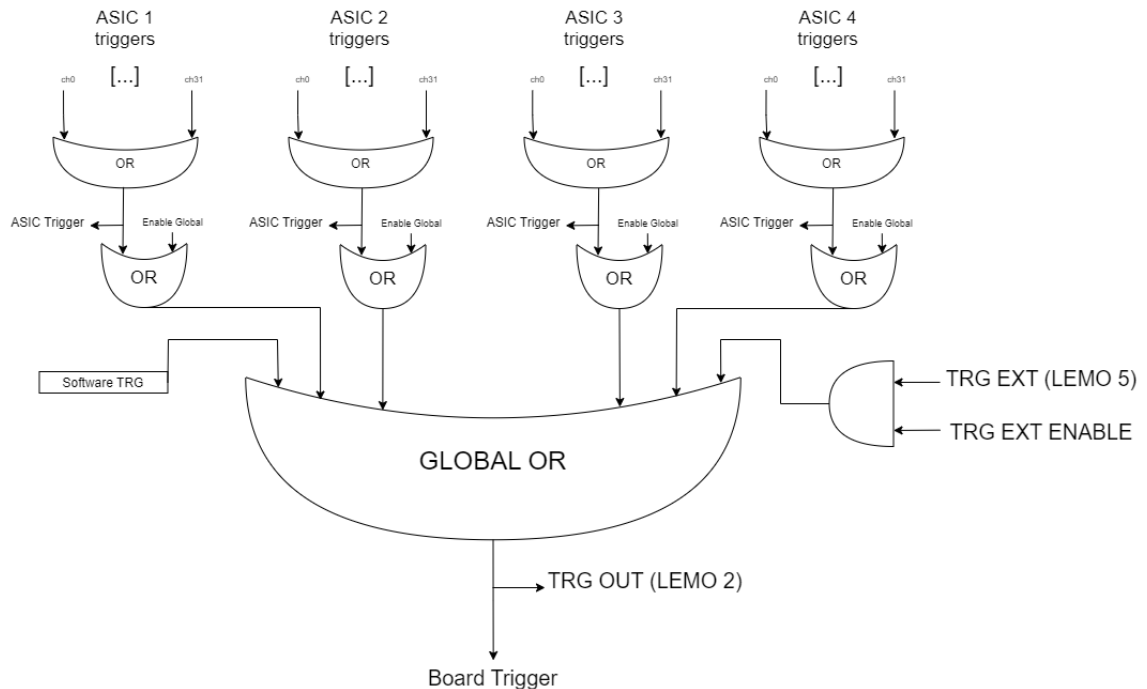

Figure 11.10: scheme of the triggering logic set in the default firmware loaded on DT5550W for A55PETx management.
The default trigger logic is implemented in the FPGA firmware of the DT5550W, as shown in **Figure 11.10**. It is possible to set each ASIC to trigger independently using the time triggers, or use a global board trigger that is the OR of all the possible triggers (internal, software, external, etc.).
- Configuration of the triggering logic as per the scheme in Figure 11.10: